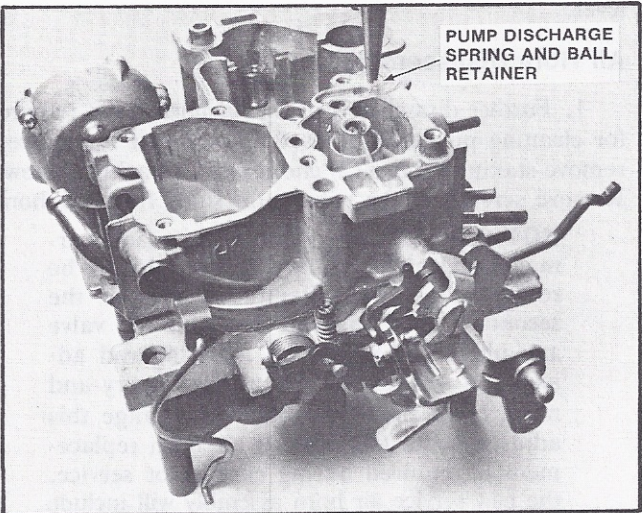

FIGURE 26 REMOVING PUMP DISCHARGE RETAINER
9. Using a small slide hammer or equivalent, remove plastic retainer holding pump discharge spring and check ball in place (Figure 26). Discard plastic retainer (a new retainer is required for reassembly).